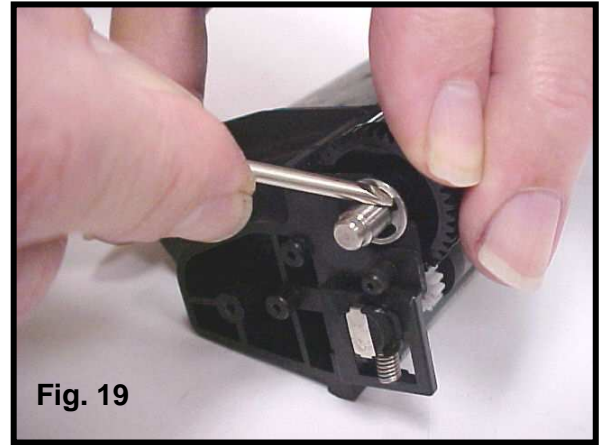

Fig. 19
19. Use a small flathead screwdriver to pry off the E clip from the OPC drum axle (Fig. 19).